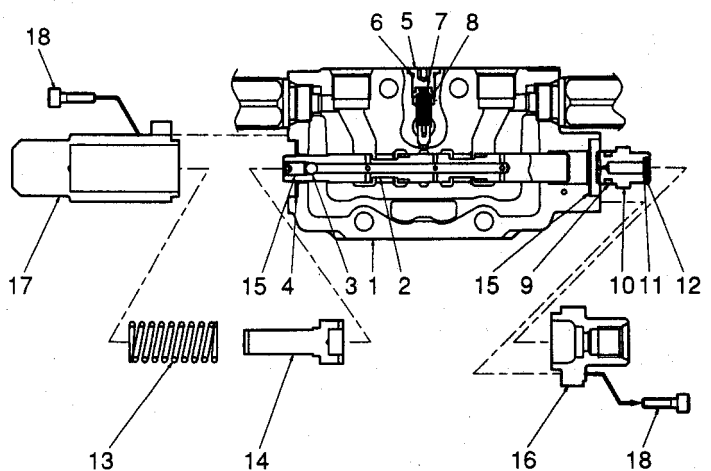

Fig. 31 Supply & travel straight parts
- 2) Remove the cover (14).
- 3) Remove the spool assy from the body (1) by means of pulling the spring (4) for axial direction.
- At that time, pay special attention not to damage the lip of spool seal [dust wiper (4) and O-ring (3)] of the opposite side. Because the spool seal tends to move to the spool edge.
(C) In case of Travel Straight Spool (based on Fig. 2 Supply & travel straight assy, Section G-G for an example - Fig. 31)
- 1) Remove two socket bolts (18).